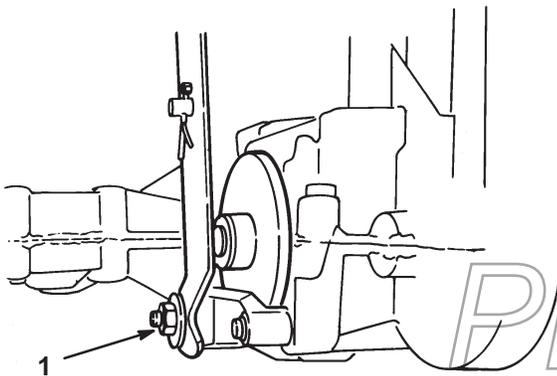

Figure 18
Adjust brake pucks if the parking brake does not hold or braking power is not sufficient when brake pedal is depressed. The brake is located on the left side of the transaxle (Fig. 18).
2. Tighten locknut approximately 1/4 turn clockwise (Fig. 18).